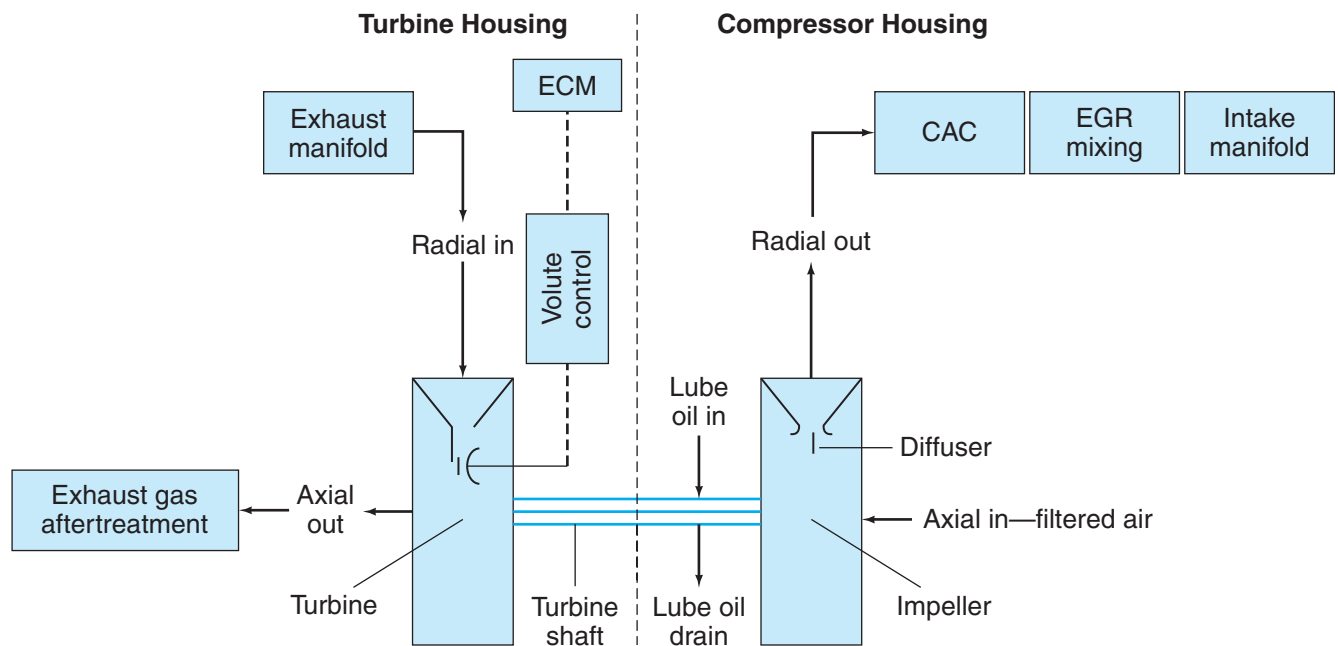

Figure 9-4 Turbocharger gas flow schematic indicating the roles played by the volute and diffuser.
The role of the volute should be understood. The smaller the volute size, the greater the restriction to exhaust gas flow. However, the smaller the volute, the greater the gas expansion as this gas exits to act on the turbine. The best arrangement is to be able to control the volute flow area, which we will look at next. **Figure 9-4** shows turbocharger gas flow. In the schematic you can see the key roles played by the volute and diffuser: note how gas flow enters and exits the turbine and compressor housings.
Constant Geometry Turbos. **Constant geometry (CG)** turbos are designed to produce their best performance at a specific rpm and engine load. They are not versatile. This limits their output. Highway engines that used CG turbos were usually spec'd to produce peak efficiency under full load and at peak torque rpm. This meant that whenever the engine was operated outside that specified point, a performance shortfall would result. An advantage of CG turbos is that they are simple, so there is little that can go wrong. **Figure 9-4** shows a typical CG turbocharger.